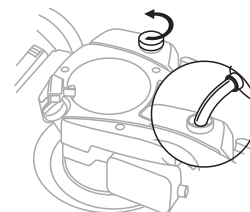

Fig.5
1. Fill engine with fresh, clean, regular unleaded gasoline with a minimum of 87 octane. Gasoline with up to 10% ethanol "E10 rating" is acceptable. Fill fuel tank to bottom of tank filler neck. DO NOT OVERFILL. (Fig.5)